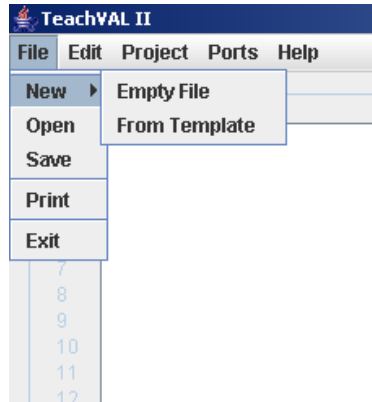

Figure 11
The 'File' menu (Figure 11) allows the creation of new programs. By selecting 'New' you are presented with two (2) options, create a new project from an empty file or from a pre defined default template. The default template allows a consistent format to be followed and contains all the default code to make sure the project will compile and run immediately.